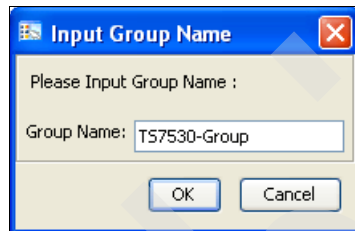

Figure 12-24 Group name
2. In the panel shown in Figure 12-24, type in the name that you want to assign to the new group.